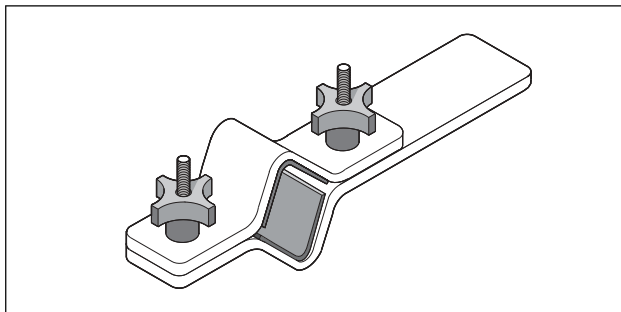

Figure 1-37. Fork Tube Holder (HD-41177)
2. See Figure 1-37. Clamp the FORK TUBE HOLDER TOOL (Part No. HD-41177) in a vise and install the upper front fork in the holding tool.